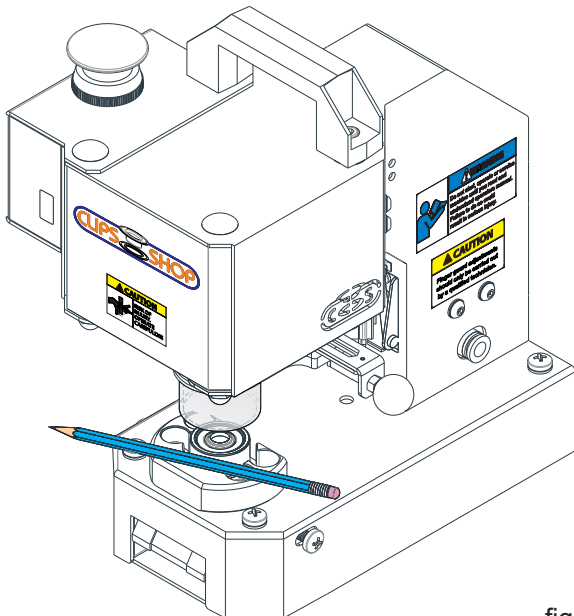

fig. 14
**The machine should not be operated** before checking the proper working of the safety guard. For testing, a test material thinner than your finger(i.e. pencil)shall be used. Locate your test material (acting as your finger) as shown in the(fig.14)**Note:** Do not use a rigid test material such as screwdriver located in the middle of the die set during your safety check. You may damage the die set.